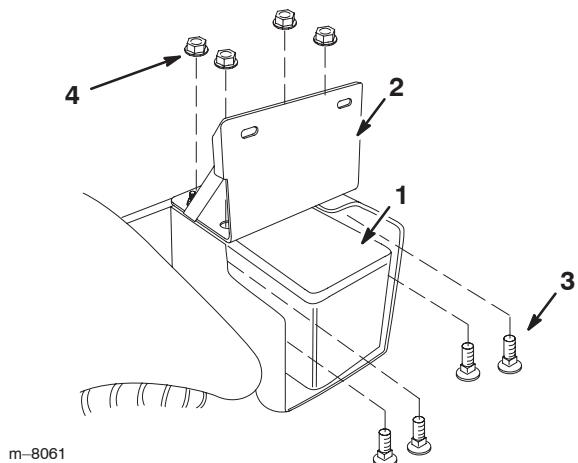

Figure 13
- Mount the Multi-Pro 1200 series adapter bracket to the right side of the vehicle above the battery (Fig. 13) using 4 bolts (3/4 x 1-1/4 inch) and 4 flange locknuts (3/4 inch).